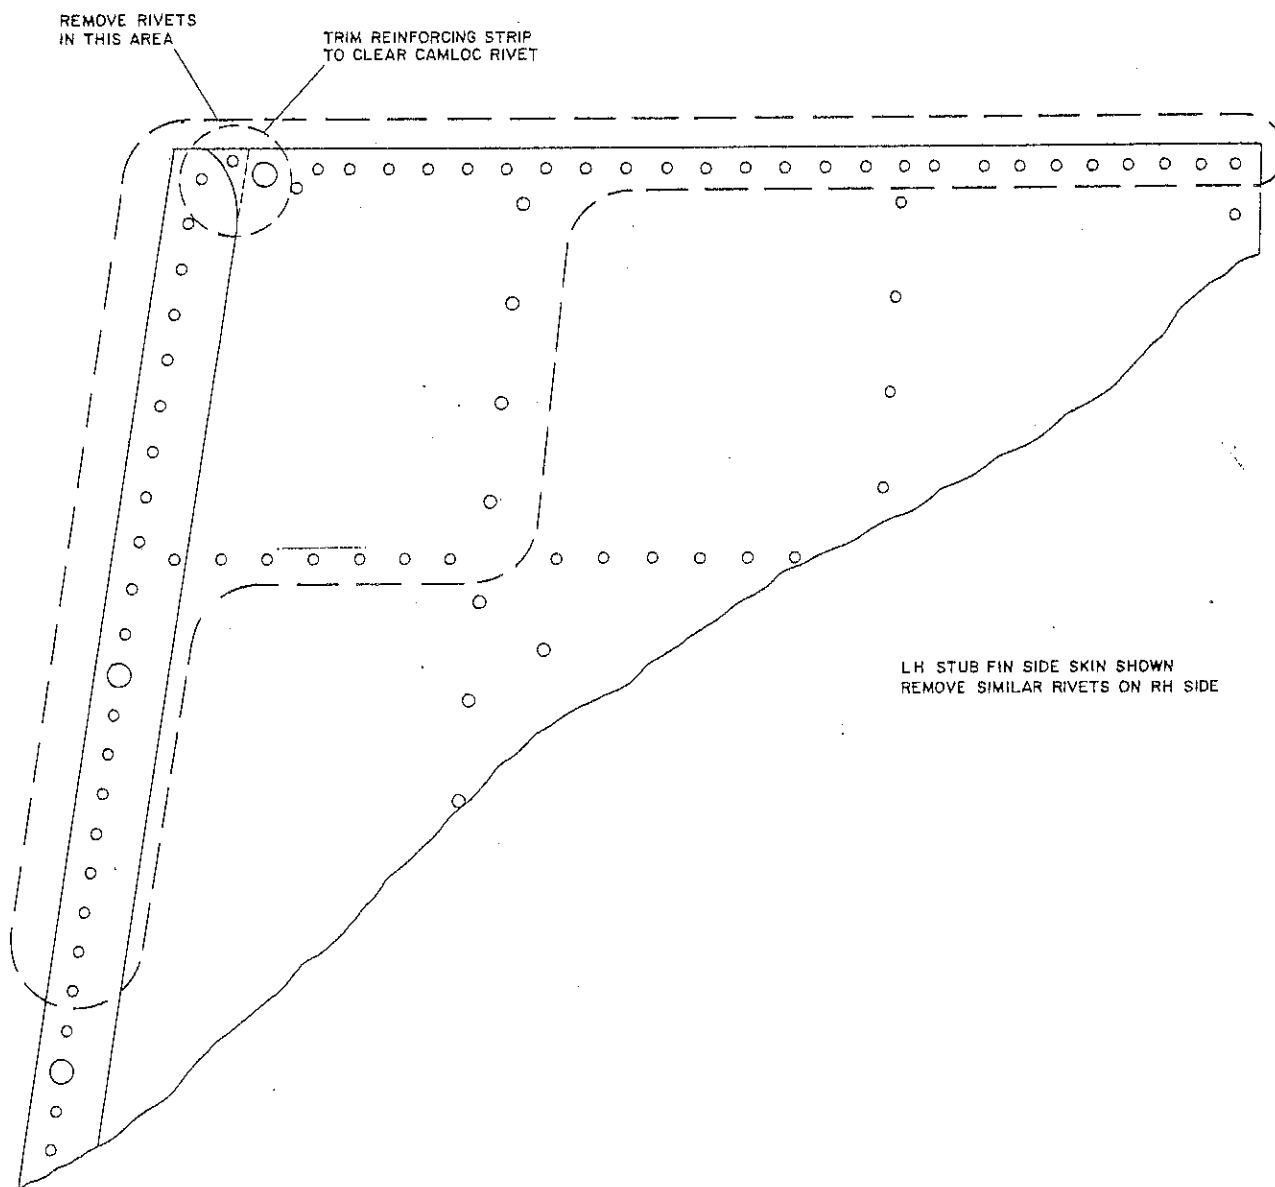

Figure 1 Stub Fin Side Skin Deriveting Pattern
- H. To allow removal of forward top Camlocs, carefully derivet LH and RH stub fin skins as indicated in Figure 1.